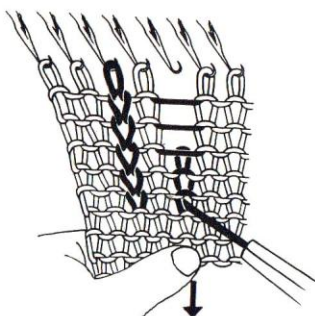

Fig. 34
2. Drop the third stitch from the end by pushing the needle forward then back until the stitch drops off the needle then, allow the stitch to drop as far down the fabric as you wish. (See Fig. 34,)